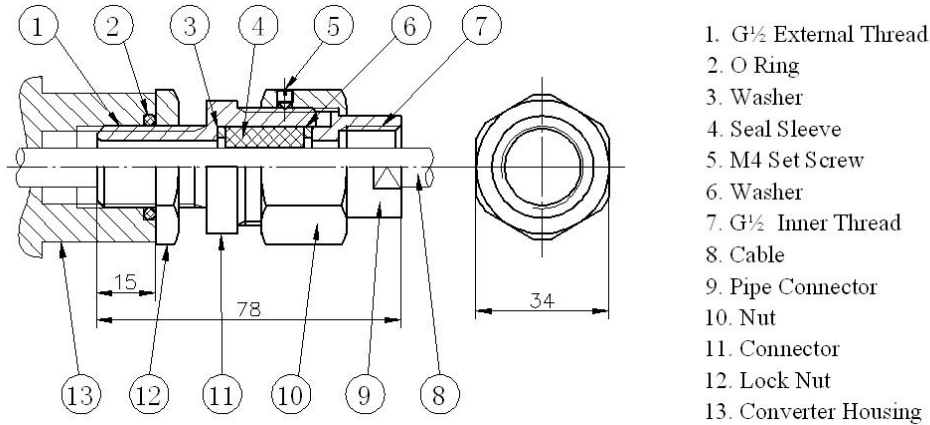

Fig. 3 Explosion-Proof Seal Connector
1) Installation of Explosion-Proof Seal Connector: (see Fig.3)